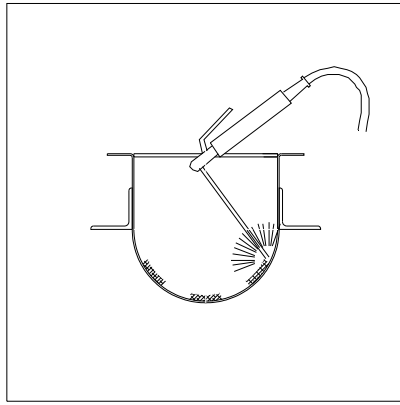

Figure 2.5.2m
9. Put welds (Z20/500) along the length of the bar. The welds should alternate from the left to the right hand side of the bar. Make sure the ends of the bars are welded to the trough (fig 2.5.2m).